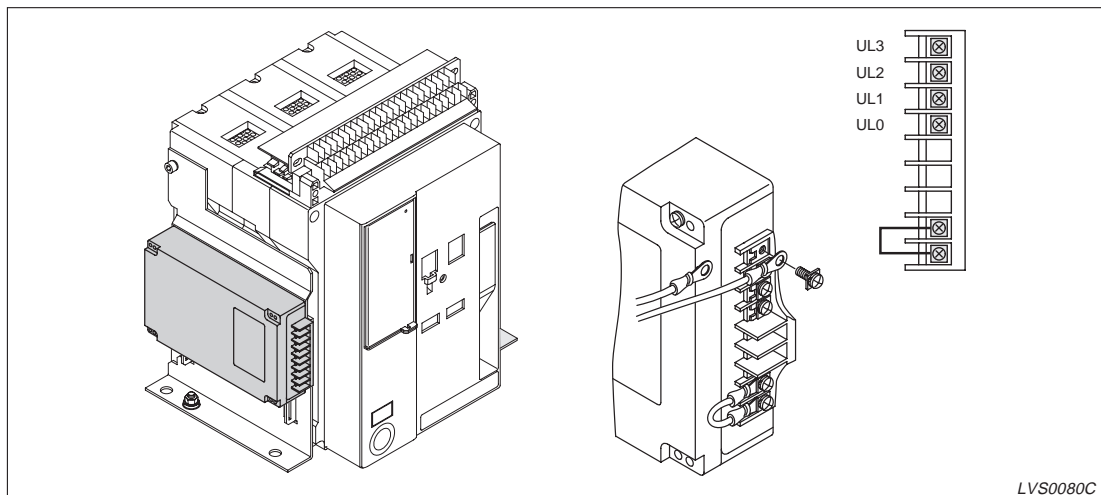

Fig. 4-15: Connection of the UVT controller
- ② Connect the power supply UL0–UL3 (D1–D4), the trip terminals US+ (DT1), US- (DT2) and the lead wires U+ (J1), U- (J2) to the control terminal block U+ (J1), U- (J2) according to the circuit diagram in fig. 4-15.
Wire the external circuit correctly according to fig. 4-15 and 4-16, otherwise there are the possibilities of malfunction, non-operation or damage to the UVT by overvoltage.